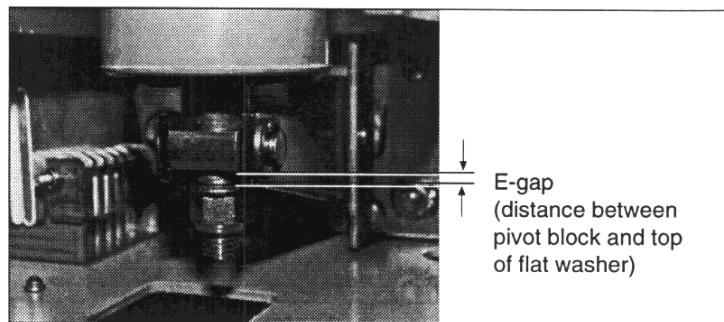

Figure 15: Spring overtravel
To measure spring overtravel, place the circuit breaker in the closed position. The spring overtravel (E-gap, figure 15) for a new vacuum interrupter assembly should be the distance shown in Table 2. Perform this measurement with a standard pin gauge.
13. Measure the E-gap of the new pole assembly as shown in figure 15. If the measurement is not within 0.03 inch of the value specified in Table 2, adjust the E-gap as follows: